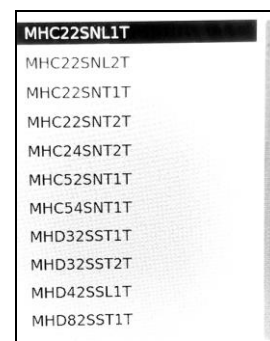

Figure 5
If the touch screen displays a Configuration display (see Figure 5) see **RESOLUTION B** on page 2 to address the missing configuration issue.
2. Remove the four (4) Phillips screws on the top of the cabinet and remove the cabinet top.
3. If one of the controllers is displaying a configuration screen (see Figure 5 on page 1), remove and reseat the SD card. The SD card is spring loaded. Remove the SD card by gently pushing in on the SD card and releasing until the SD card is ejected (see Figures 6A & 6B).